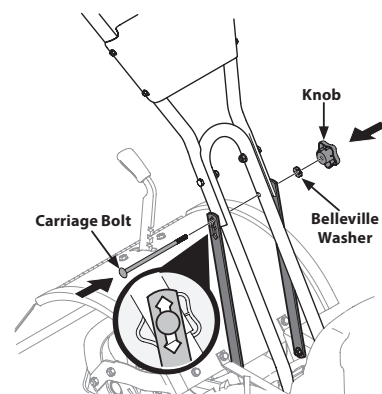

Figure 3
3. Loosely attach the support brackets to the outside of the handlebar assembly using the carriage bolt, belleville washer and knob. See Figure 3.